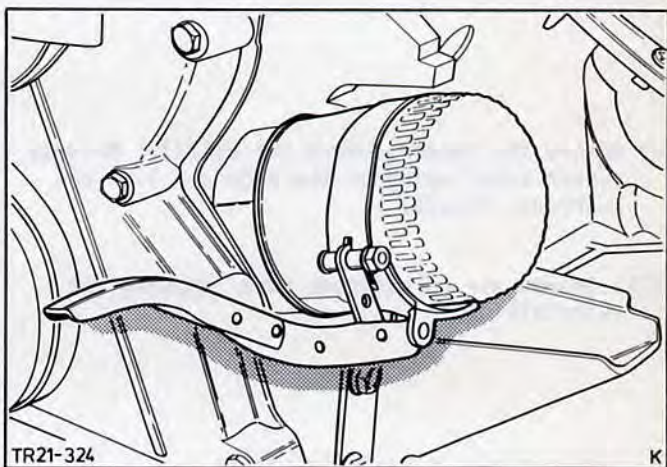

Fig.28. Unscrew oil filter with clamping tool.
2. Drain off engine oil. Unscrew oil filter with standard clamping tool, Fig.28, and withdraw oil dipstick.